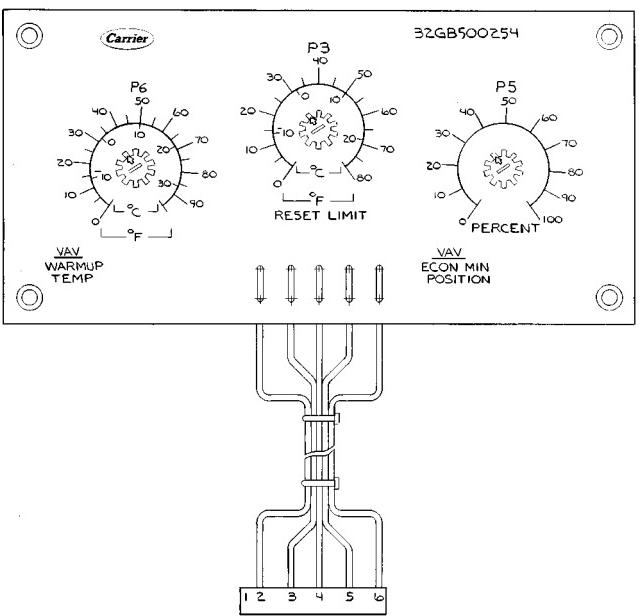

Fig. 31 — Accessory Reset Board
P3 (Reset Limit) — Usable only if accessory reset is used. If accessory reset is used, dip switch 2 must be in the ON position. P3 should be set at the number of degrees of reset selected (difference between design leaving-air temperature and desired reset temperature). The valid range is 0° to 80 F. If potentiometer is out of valid range (less than 0° F or greater than 80 F), control will energize the alarm light, a code of [84] will appear on the display if display button is pushed, and reset will be terminated. The reset potentiometer is located on accessory board in unit control box (Fig. 31).
- P5 (Minimum Economizer Position) — Valid range is 0 to 100% (this is also the range control is programmed to use). Dip switch 3 must be in ON position. If set point is outside valid range, alarm light will be energized, an error code of [86] will be on display and economizer outdoor-air dampers will close. This potentiometer is located on accessory reset board (Fig. 31).
[87] will show on display when display button is pushed and control will use a default value of 40 F. This potentiometer is located on the accessory reset board (Fig. 31).